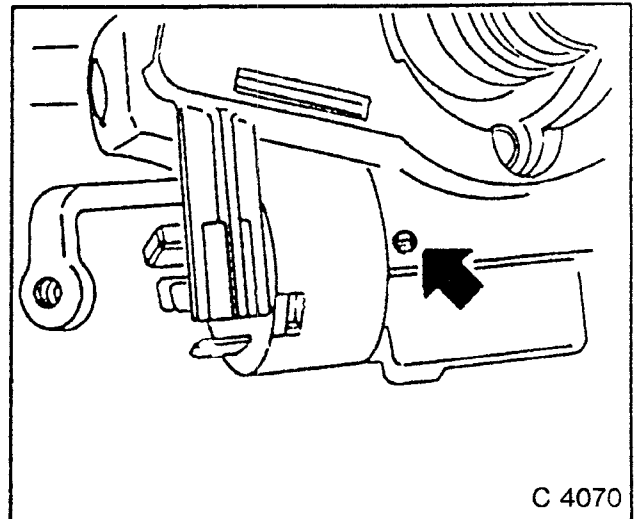

Fig. 72
1. Contact part. (Fig. 72 shows steering wheel with height adjustment).